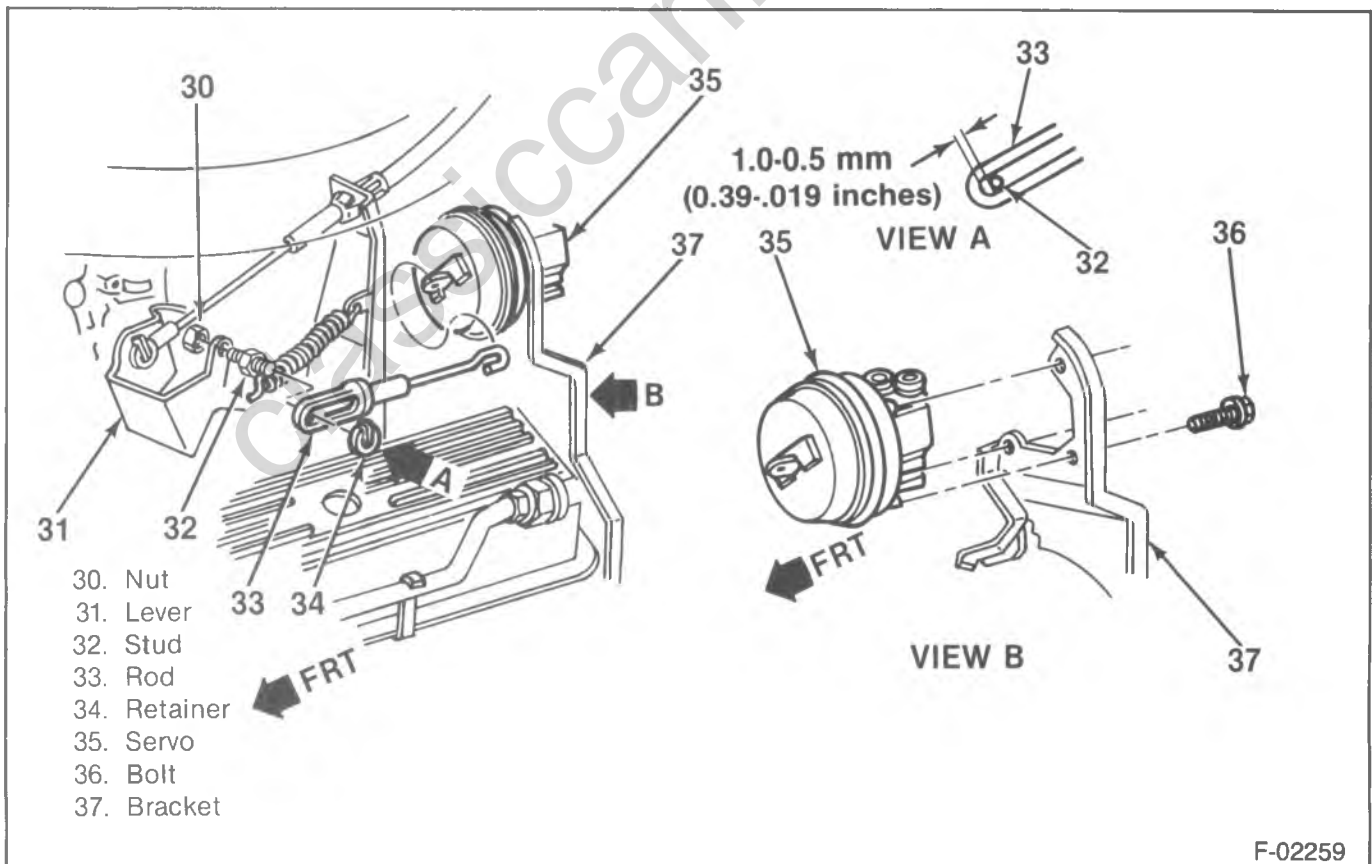

Figure 14—Servo Mounting (V8 Gas)
- Rod (33) so that it assembles over stud (32) (figure 14).